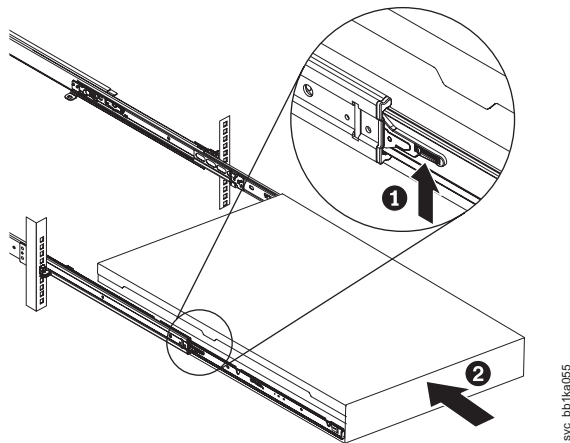

Figure 263. Raising the SAN Volume Controller 2145-CF8 or 2145-CG8 locking levers of the slide rails of the rack
15. Lift the locking levers (**1** in Figure 263) on the slide rails and push the server **2** all the way into the rack until it clicks into place.